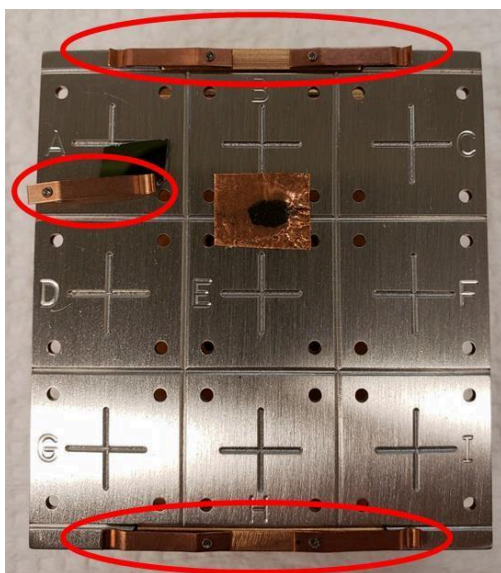
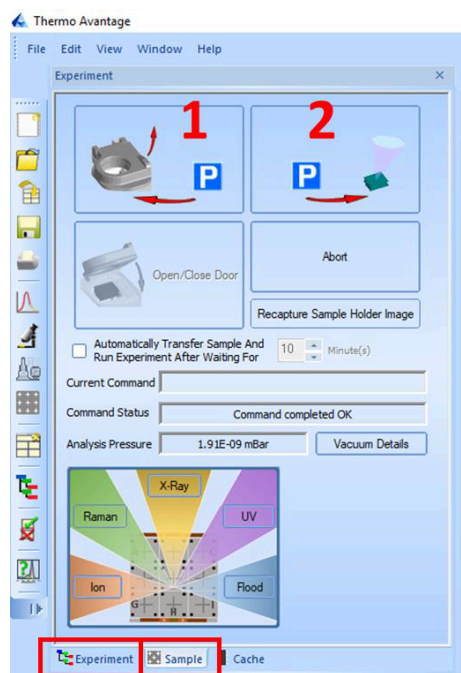
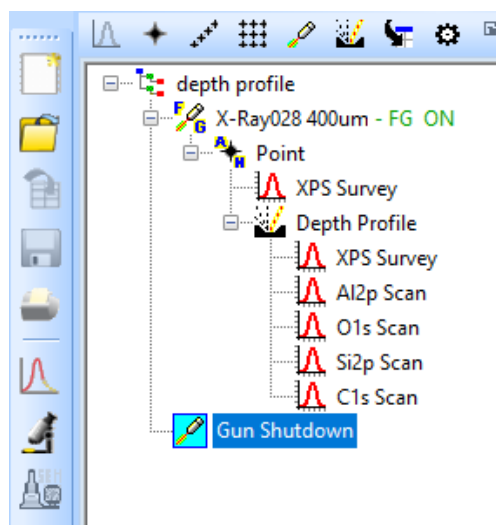

Figure 2: Standard XPS sample holder. Notice the spring clips (circled) and samples do not hang off the edges of the sample holder.
Figure 3: Screenshot of the Sample Menu. 1) Vent the entry lock and open the door. 2) Move sample to
Figure 6: Example of a depth profile experiment.
2. Samples are mounted onto a standard sample holder using the spring clips (**Figure 2**).
This SOP will cover how to use the software with this sample holder (**Figure 2**) for XPS standard high resolution and etching measurements. Refer to the other SOPs for the other stages or options on the Nexsa.
2. **Figure 3** shows the “Sample” menu.
- a. The options at the top shown in **Figure 3** are what should be displayed at the start and end of the experiment. We keep the standard sample holder (**Figure 2**) in entry lock chamber under vacuum.
- b. Select the left option, “Vent load entry”, labelled **1** in **Figure 3**. Click “Yes” to confirm this action.
4. Once the holder is in position, select “Pump and park in the entry lock” on the top left (which is labeled **1** in **Figure 3**, but with a different icon since it is closing the door) to close and pump down the entry-lock chamber.
6. Once about 10^{-6} to 10^{-7} mbar is reached, transfer the holder to the analysis position by selecting the “Move sample to analysis” on the top right, labeled **2** in **Figure 3**.
2. Click on the “**Experiment**” tab (**Figure 3**). **Figure 6** shows an example experimental run for depth profiling and **Figure 7** of a Point analysis. To fill out the Tree, follow the instructions below with **Figure 7**.
3. When the experiment is over and the sample stage is in the entry-lock position, click on “Vent load entry”, labelled 1 in Figure 3. Click “Yes” to confirm this action.
4. Remove your samples from the stage and put the stage back into the entry-lock and click on “Pump and park in the entry lock” on the top left (which is labelled 1 in Figure 3).